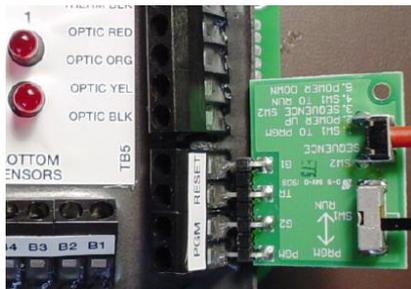

Fig. 8
- 3) Connect the programming module per Fig. 8.